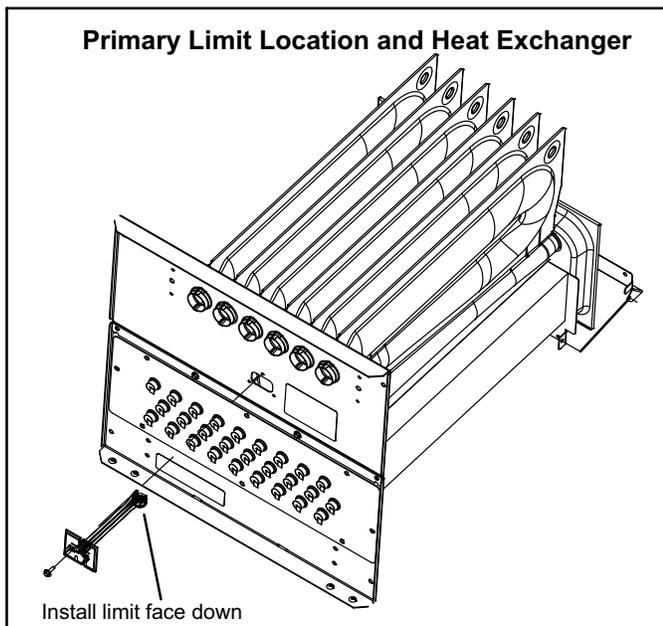

FIGURE 8
2. Heat Exchanger (Figure 8)
3. Primary Limit Control (Figure 8)